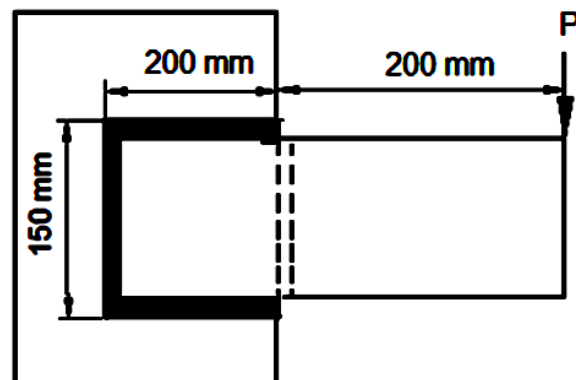
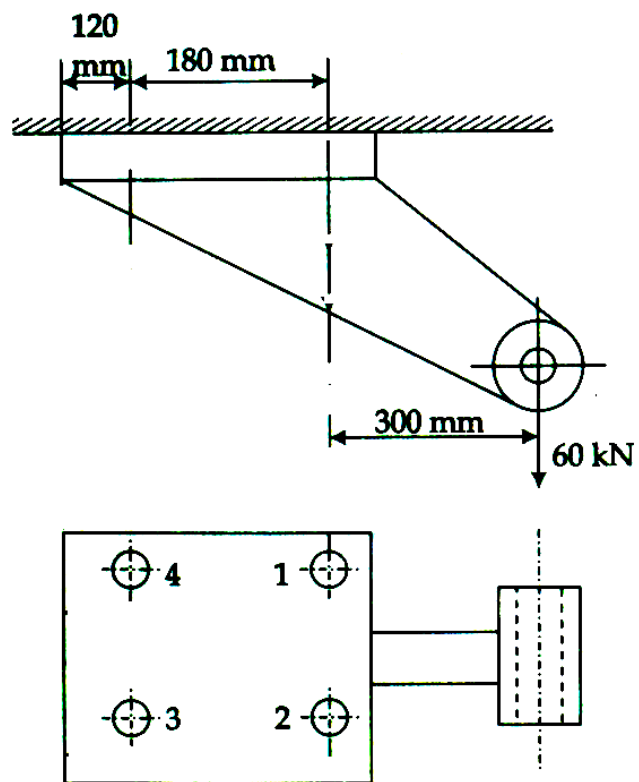

Fig.Q.4A
Fig.Q.5A
- 3B.** Briefly discuss the stresses in key with a neat sketch. Differentiate between Saddle key and sunk key. (05)
- 4A.** A steel plate 10 mm thick is welded to a vertical support using four 6 mm fillet welds as shown in **Fig.Q.4A**. Find the safe load P if permissible shear stress in weld material is 75 MPa. (05)
- 4B.** With neat sketch define the types of failure in riveted joints. (05)
- 5A.** **Fig.Q.5A** shows a wall bracket required to carry a load of 60 kN. The yield stress for the bolt material is 360 MPa. Take factor of safety as 2.5. Specify the tilting edge and determine the size of the bolt. List the pitch diameter, major diameter and minor diameter of the bolt. (05)
- 5B.** A double threaded power screw with square threads is used to raise a load of 300 kN. The nominal diameter is 100 mm and pitch is 12 mm. The coefficient of friction at the screw thread is 0.15. Neglecting collar friction, compute: (05)